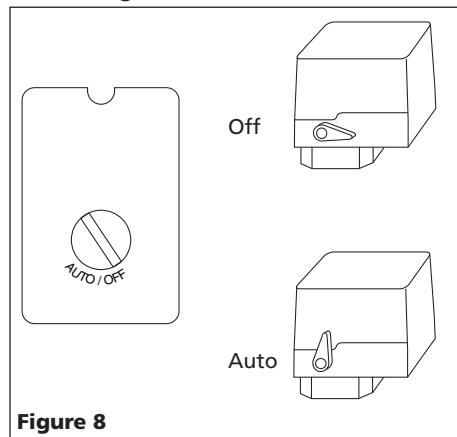

Figure 8
Dual voltage motors may be connected for either 120 volts or 240 volts. By comparing the plug on the cord with the receptacles shown in Figure 8, you can determine for which voltage your compressor is factory wired.
- Turn pressure switch lever or knob to AUTO position and run unit for 30 minutes to break in the pump parts (See Figure 8).